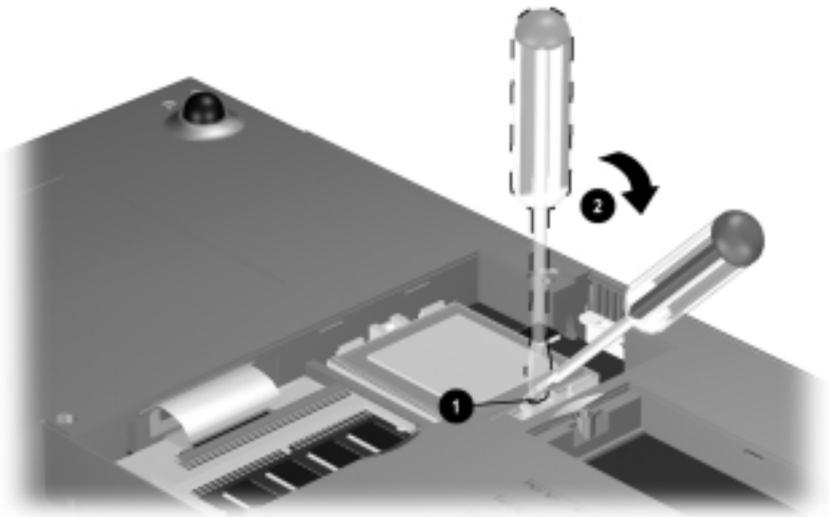

Figure 5-11. Removing the Processor
5. Insert the tip of a flat-blade screwdriver into the left socket **1**. This socket is marked “**SKT OPEN**” (Figure 5-11).